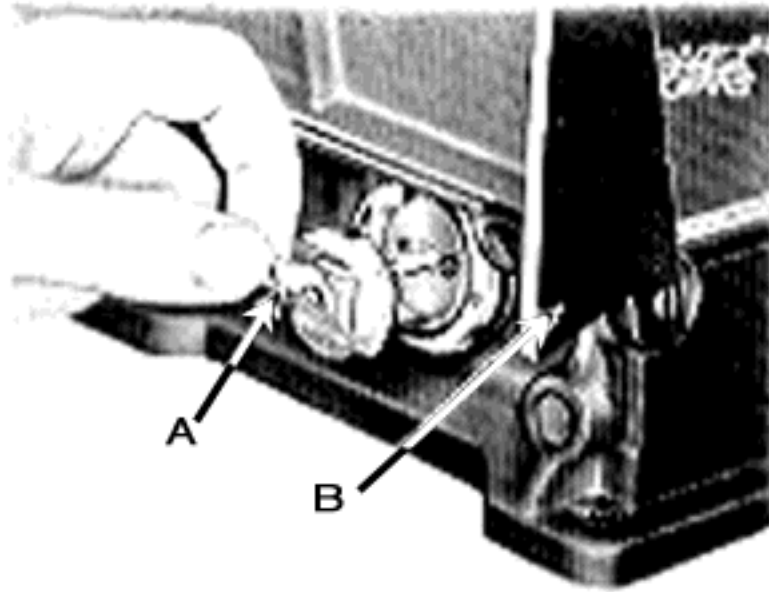

Fig. 5
(See Fig. 5) Turn the balance wheel towards you until the take-up lever is at its highest point. Raise the bed extension (B) as far as it will go, and with the thumb and forefinger of the left hand, open the latch (A) and withdraw the bobbin case.